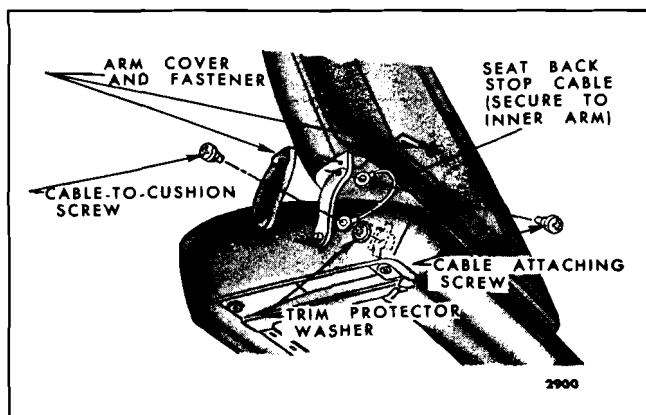

Fig. 15-47—Bucket Seat Back Stop Cable—"F & Z" Styles
1. Using a flat-bladed tool inserted between passenger's seat back inner hinge arm cover and hinge arm, carefully disengage upper portion of cover from fastener and remove cover from inner hinge arm (Fig. 15-47).
2. At inner side of passenger's bucket seat cushion, remove screw securing seat back stop cable and trim protector washer to seat cushion frame (Fig. 15-47).
3. Remove bolt securing seat back stop cable to seat back inner hinge arm (Fig. 15-47) and remove cable from seat.
and remove cover from both inner and outer hinge arms (See Fig. 15-47). If removing passenger's seat back on Chevrolet "F & Z" styles, remove screw securing seat back stop cable and trim protector washer to seat cushion frame (Fig. 15-47).
3. Carefully disengage and remove retainer securing both inner and outer hinge arms to seat cushion hinge pins (Fig. 15-47).